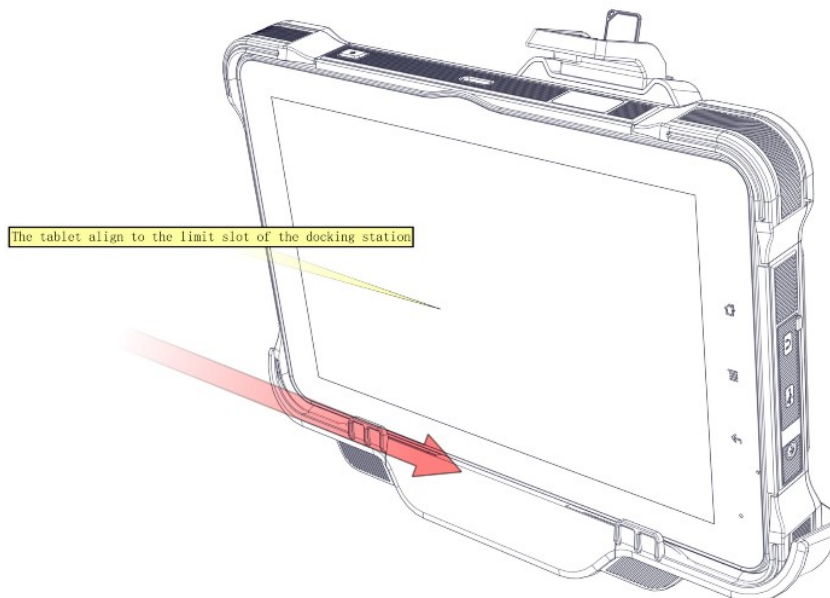

Fig. 4-2
2. Align the VT-10 Pro to the limit slot of docking station as Fig 4-2 shown.